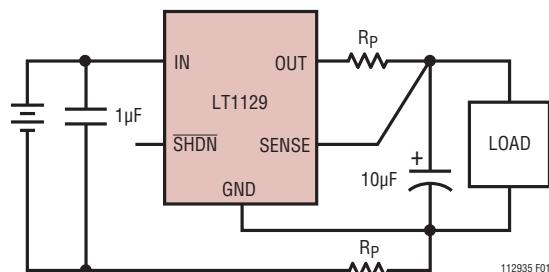

Figure 1. Kelvin Sense Connection
**Sense Pin:** For fixed voltage versions of the LT1129 (LT1129-3.3, LT1129-5) the sense pin is the input to the error amplifier. Optimum regulation will be obtained at the point where the sense pin is connected to the output pin. For most applications the sense pin is connected directly to the output pin at the regulator. In critical applications small voltage drops caused by the resistance ( $R_P$ ) of PC traces between the regulator and the load, which would normally degrade regulation, may be eliminated by connecting the sense pin to the output pin at the load as shown in Figure 1 (Kelvin Sense Connection). Note that the voltage drop across the external PC traces will add to the dropout voltage of the regulator. The sense pin bias current is  $15\mu\text{A}$  at the nominal regulated output voltage. This pin is internally clamped to  $-0.6\text{V}$  (one  $V_{\text{BE}}$ ).